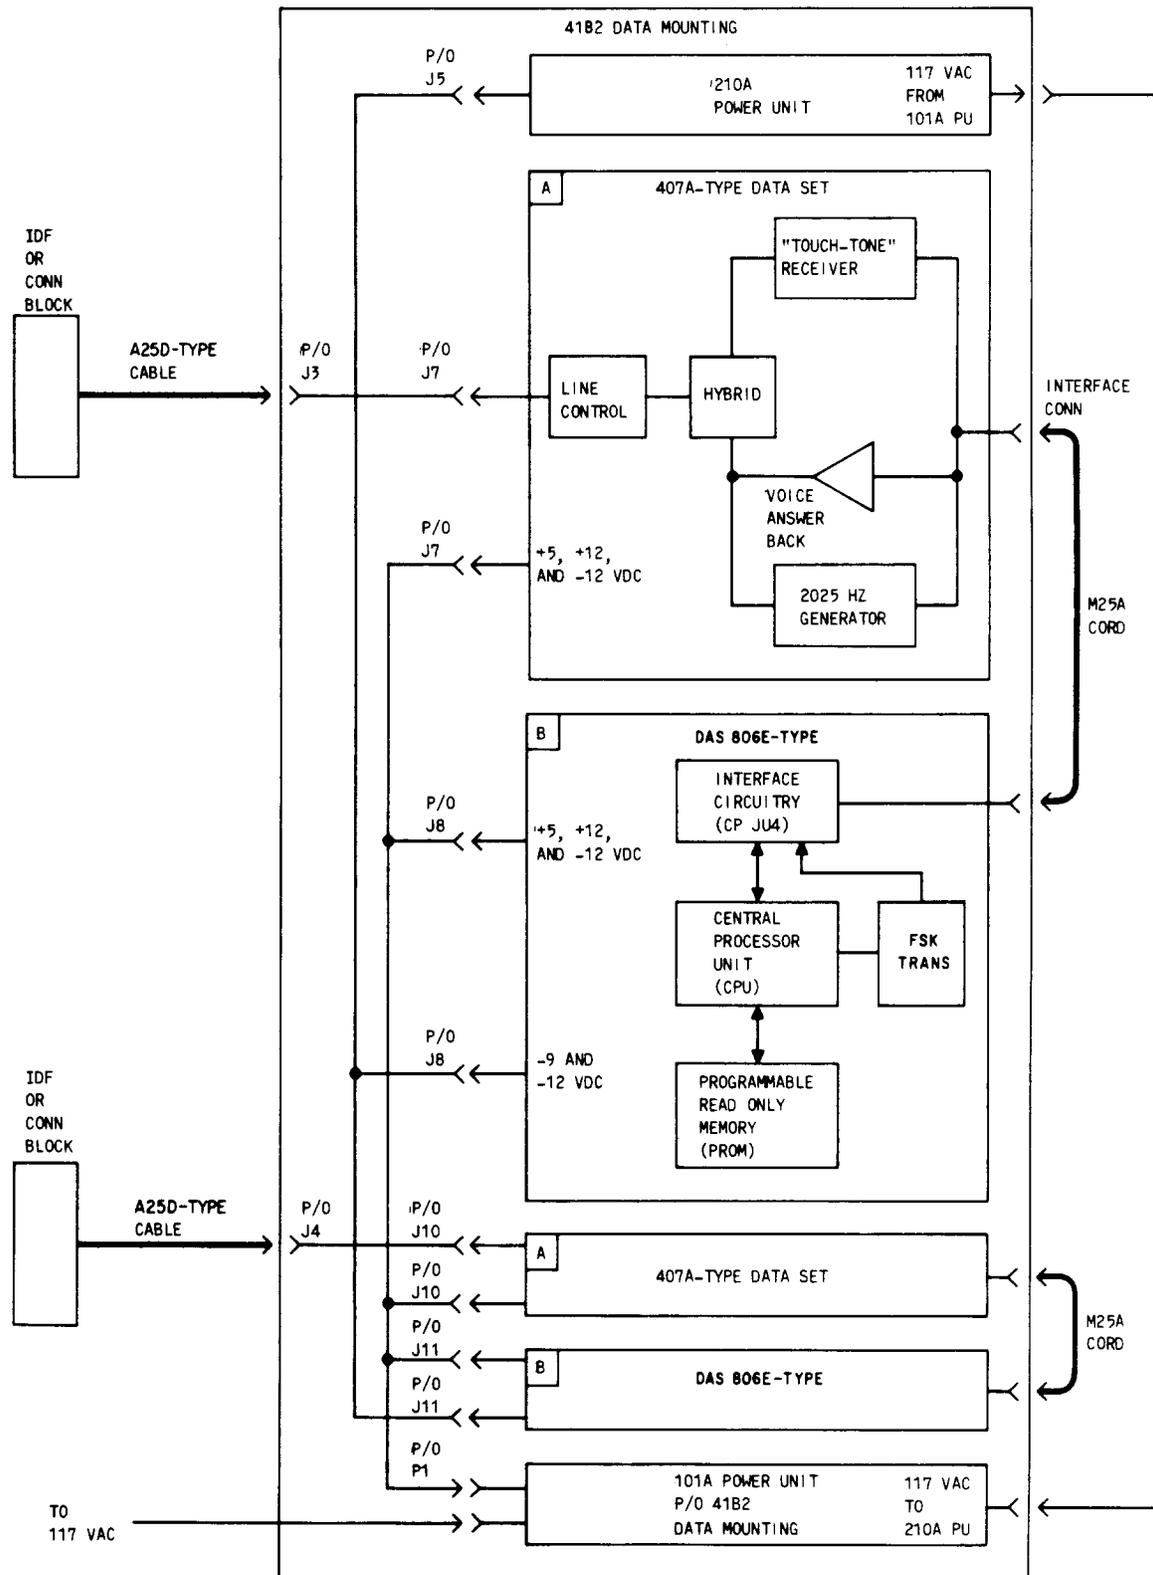

Fig. 6— Functional Arrangement—1A TTLS—Typical
**3.02** A functional block diagram of a 1A TTTLS with two test lines is shown in Fig. 6.